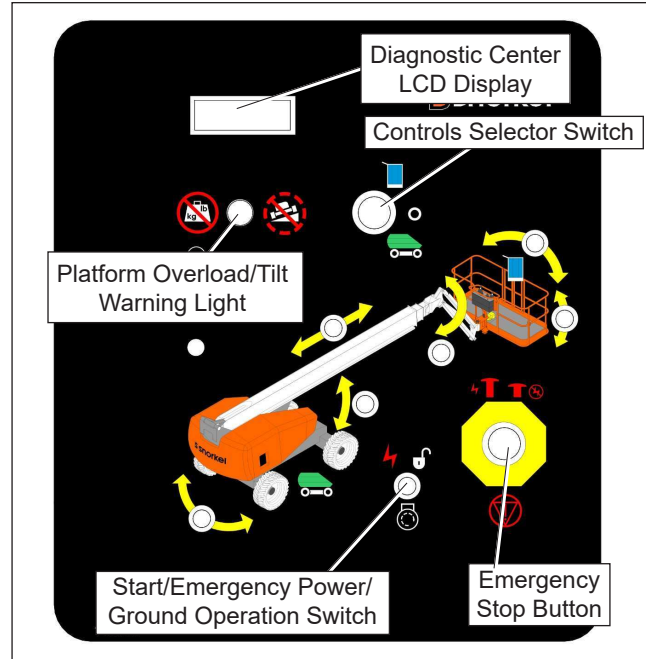

Figure 7.7 – Lower Controls
With no personnel in the platform, test the operation of each control from the lower controls (refer to Figure 7.7).
3. The start switch (refer to Figure 7.7) function works like an automobile ignition switch.
To test the diagnostic center display on the lower control panel (refer to Figure 7.7), from the lower controls: